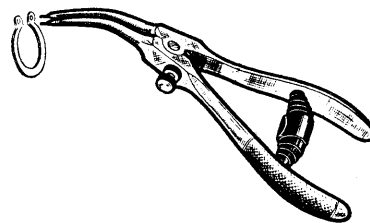

Fig. 6
- Withdraw the external ring (opening pliers, 100002) (fig. 6).